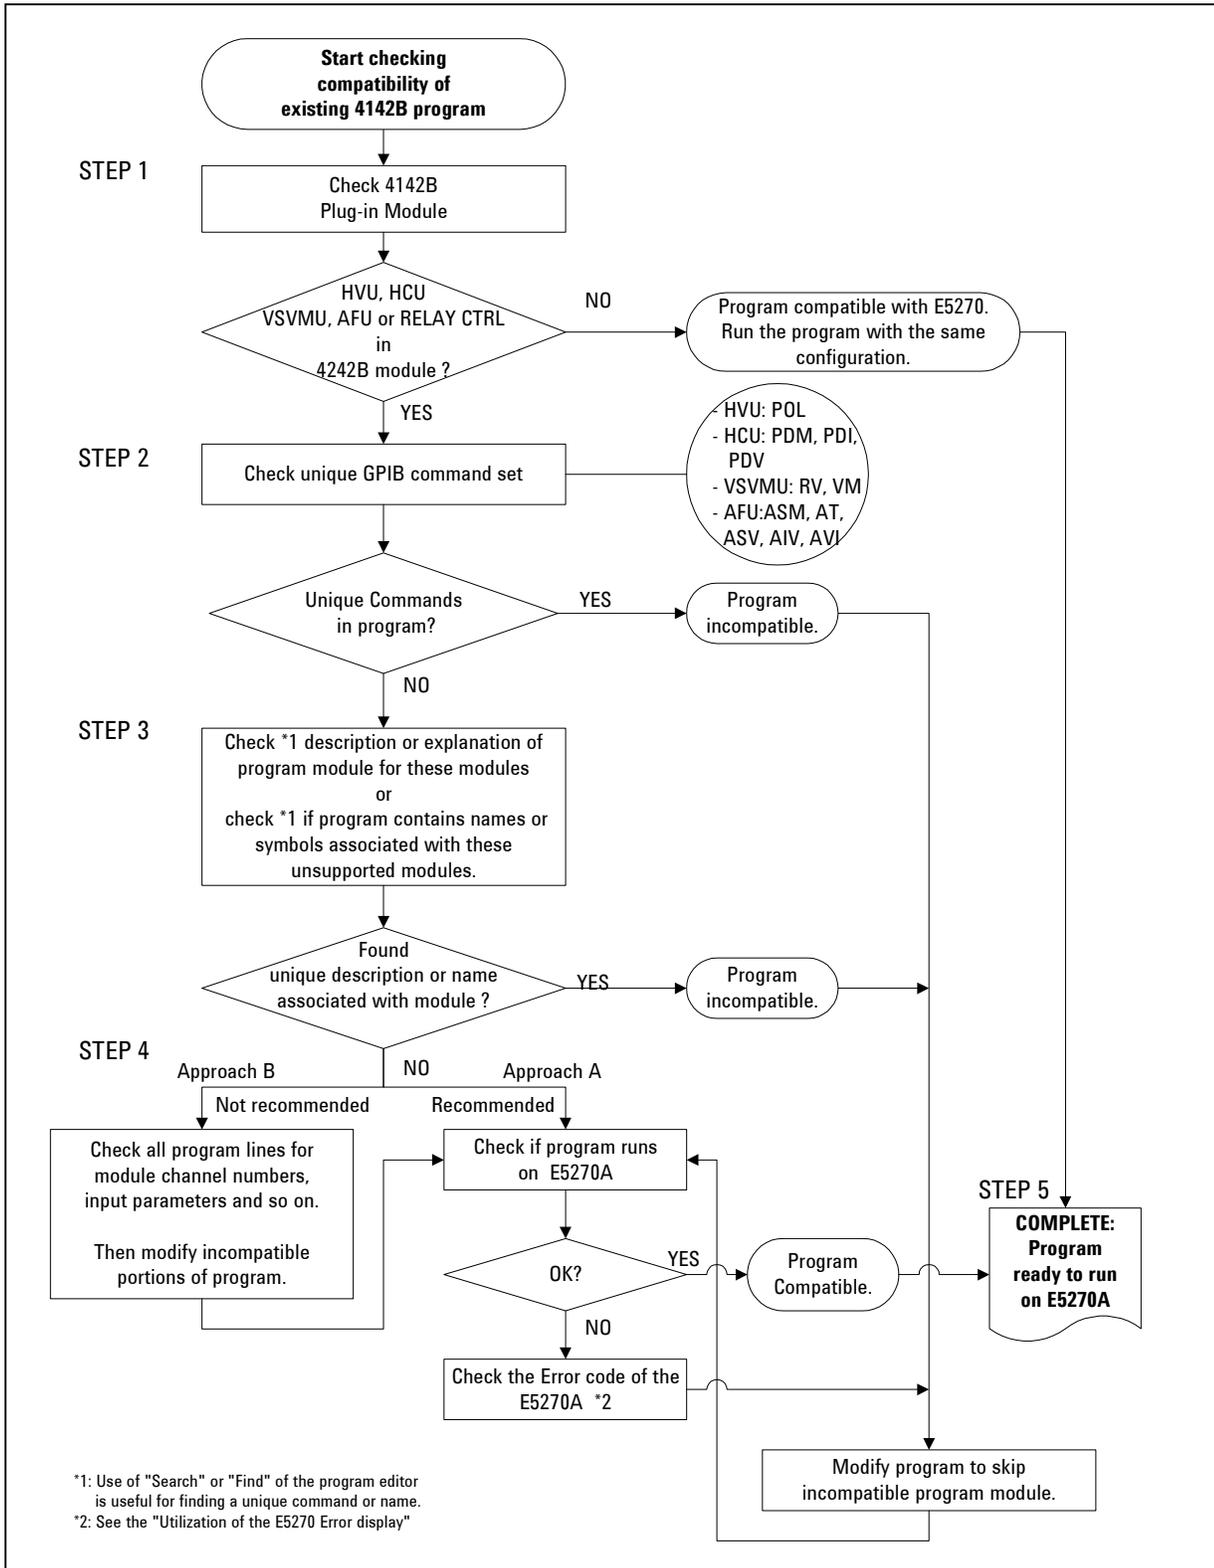

Figure 1. Flow diagram for finding unsupported modules in 4142B program
The above four steps are set out in flow diagram format in Figure 1.
Step 4 in Figure 1 indicates the following two possible choices: